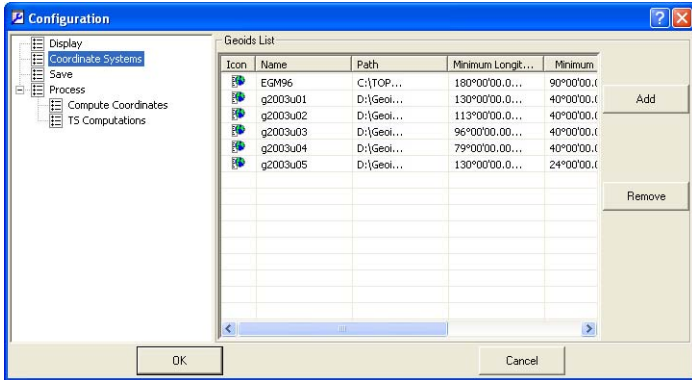

Figure 3-10. Select Geoid
3. In the Coordinate Systems pane the user can view, add, or remove available geoid file (Figure 3-10). Click Ok to save and exit.